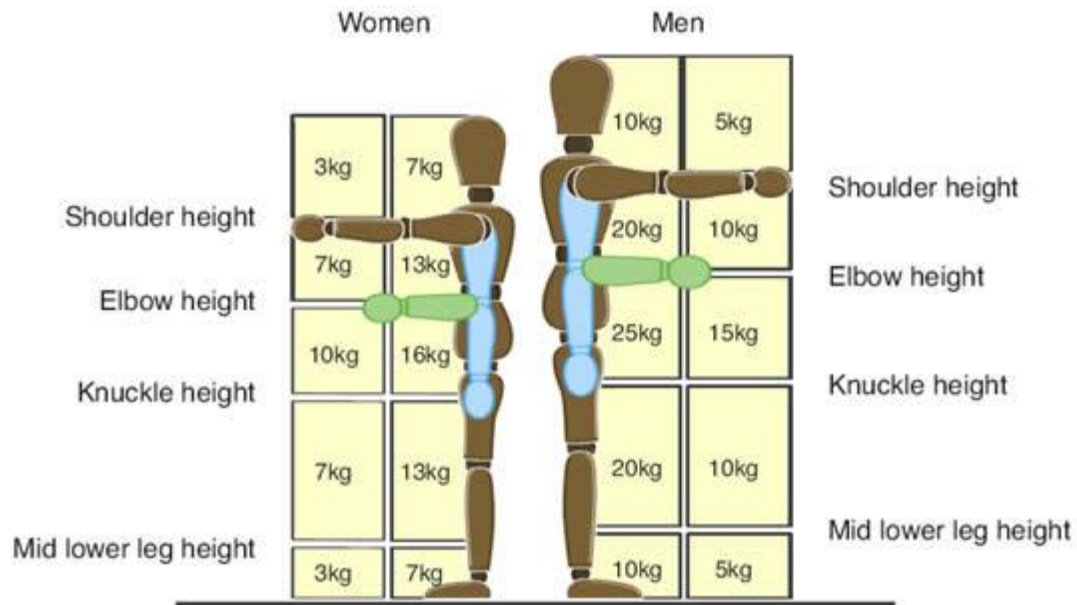

Figure 1 Lifting and lowering
- Use Figure 1 to make a quick and easy assessment. Each box contains a guideline weight for lifting and lowering in that zone. (As you can see, the guideline weights are reduced if handling is done with arms extended, or at high or low levels, as that is where injuries are most likely to occur.)
Using Figure 1 is a first step. If it shows the manual handling is within the guideline figures (bearing in mind the reduced limits for twisting and for frequent lifts) you need not do any more in most cases. But you will need to make a more detailed assessment if: